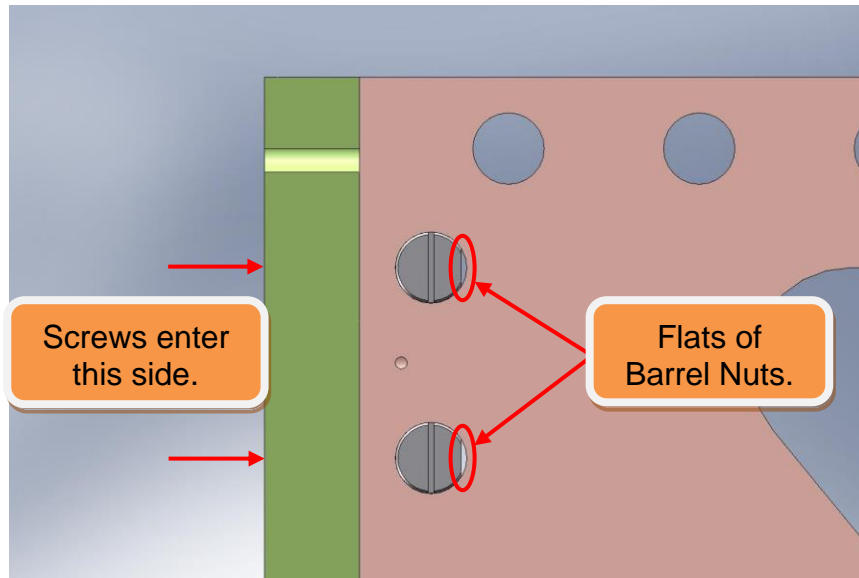

Figure 3.26. Preferred orientation of Barrel Nuts. Flat side should always face away from the screw.
- Place (7) **Type 00 Barrel Nuts** (D071250 Type 00) into holes along the side of the **Mid-Radial Rib** (D071054). Flat side of each Nut should face away from its screw, as shown in Figure 3.26. Thread in mating screws. Torque to final spec.